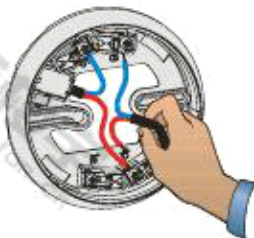

Fig. 1
- **Easy, time-saving and high-quality mounting (Fig. 1)**